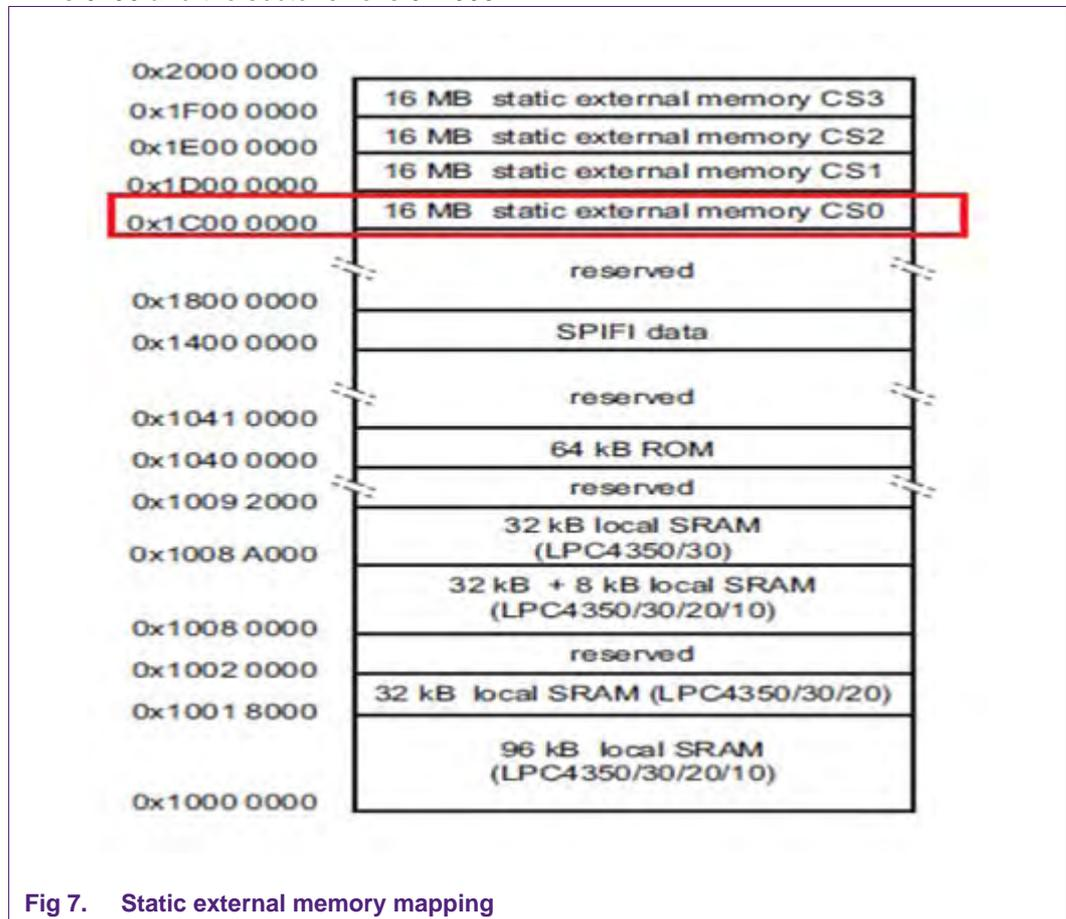

Fig 7. Static external memory mapping
- Start Address – 0x1C000000. This can be found out by determining the bank to which the external flash is connected. For the MCB1800, the bank is CS0. The memory map diagram is shown in Fig 7).
| Fig 7. | Static external memory mapping..... | 10 |